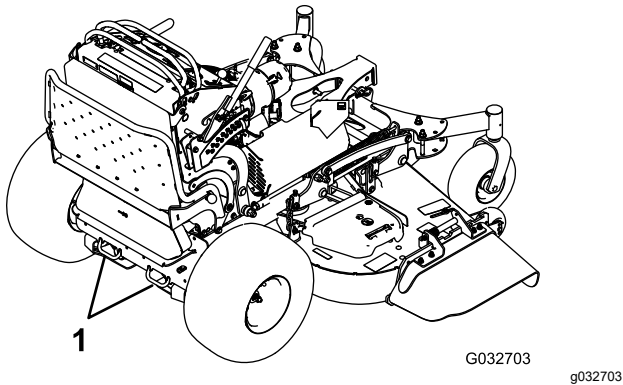

Figure 37
7. Tie down the machine near the front caster wheels and the rear bumper with straps, chains, cable, or ropes (Figure 37). Refer to local regulations for tie-down requirements.